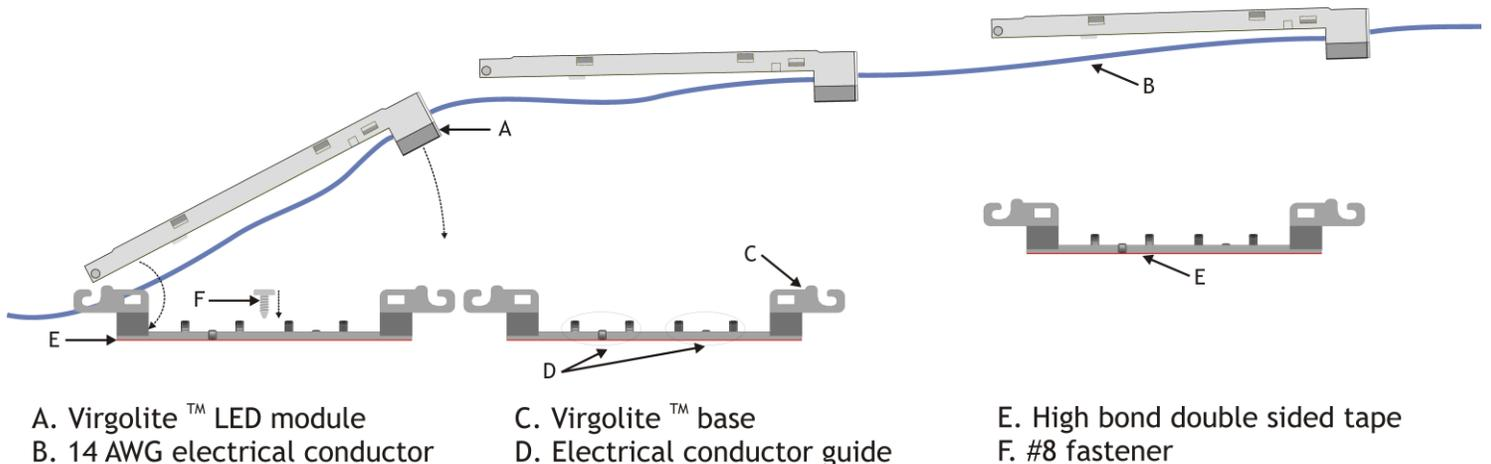

Figure 1: Installation of the Virgolite™ LED module
6. Insert the 14 AWG electrical conductor (stranded wire) in the modules and snap them in the bases. All modules are to be wired in series (figure 1).